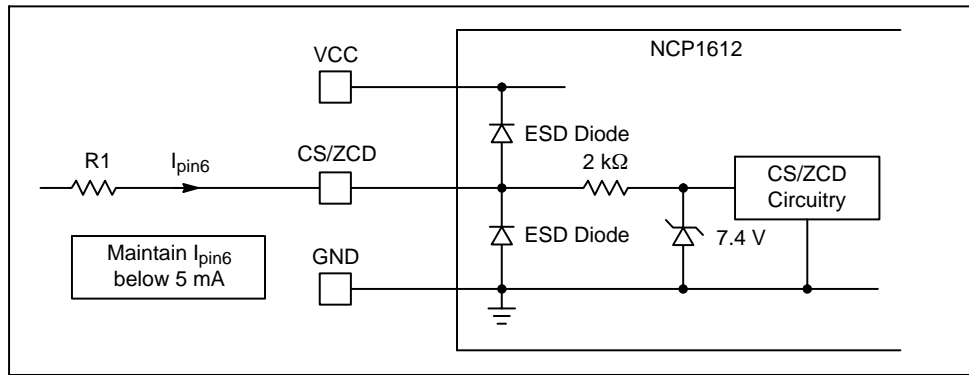

Figure 3.
5. Maximum CS/ZCD current that can be injected into pin6 (see Figure 3).